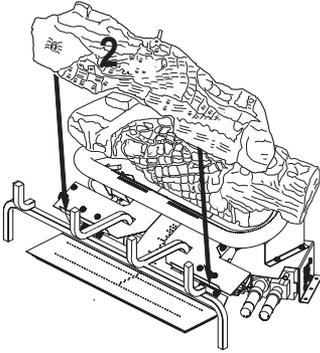

Figure 45 - Installing Log # 2
- Place the middle log (#2) in front of the U-burner and against the edges of the plate as shown in Figure 45.